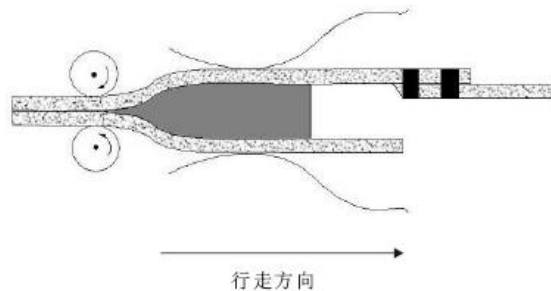

Fig.5 "T" shape welding diagram
8). A "T" shape overlap is formed between welded material and another material. Welding method is shown as fig.5, tightly butt the overlap head of hot wedge against weld mark, and beveling cut length is approximately 100mm.